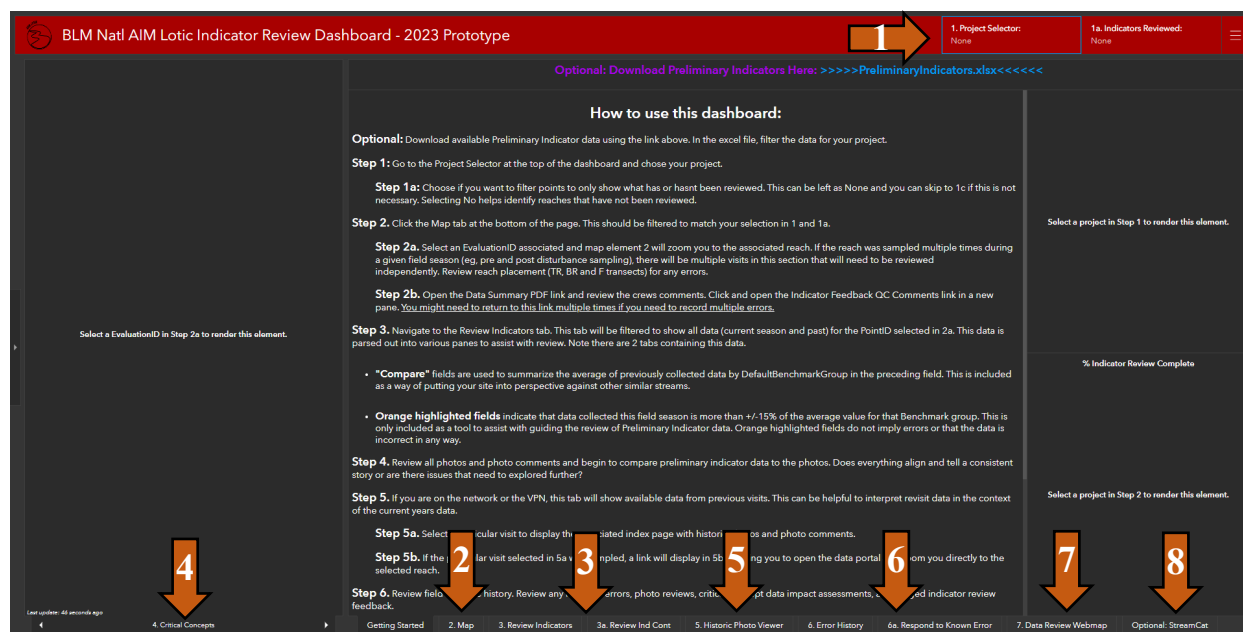

Figure 5. Screenshot of the Indicator Review Dashboard
- Prior to reviewing data from the data collector's first trip watch the QC webinar which covers detailed instructions on how to use the Indicator Review Dashboard. Only general instructions are provided below. The Indicator Review Dashboard has the following key components (Figure 5):
- C. Select your project from the Project Selector (1) at the top of the page. Next, using the Indicators Reviewed Selector (1a) select “No”. This will filter out any reaches that you have already reviewed Indicators for.
- D. Open the Map tab (Figure 5, Label #2). Select the first reach from the list on the left (2a).
- E. Review the reach’s placement on the map (2) against satellite imagery and orient yourself to the area. If the reach has been previously evaluated, compare both reaches top of reach, bottom of reach and F transect placement.
- H. Open the first Review Indicators tab (Figure 5, Label #3). Indicators are organized and arranged into panels allowing the user to see and compare multiple indicators at the same time.
- I. Review the photos (Figure 5, Label #4) to get a feel for the nature of each reach. For example, is the reach high versus low gradient, confined versus unconfined, or highly impacted by management or unaltered? All photos are categorized into tabs. Click the tabs name to select your next tab from a list or use the arrows to navigate.
- L. If the reach has been previously evaluated, open the Historic Photo Viewer tab (Figure 5, Label #5), and select the visit from the list on the left (5a). Once selected, all photos and photo comments will be displayed in the window on the right.
- M. Next open the Error History tab (Figure 5, Label #6) and review all “Transactional Dialog” of the QC information related to the selected reach. Select an element in this pane and then review the information displayed in the “Transactional Dialog” box.
- O. OPTIONAL: If you wish to dive deeper into the current field seasons data to determine why a particular indicator is being computed a certain way, navigate to the Data Review Webmap tab (Figure 5, Label #7). This tab will automatically be zoomed to the reach you have selected. Click on the Points layer and select “Show Related Records” to look at available raw data.
- P. OPTIONAL: Curious about other factors in your reaches watershed that could be impacting its data? Open the Optional: StreamCat tab (Figure 5, Label #8) to see what information EPA StreamCat has for your reach’s catchment and watershed.
- Q. To record the outcomes of the above review, open the QC Comments form using the Dashboard (Figure 5, Label #2) – 2b. Both positive and negative outcomes must be recorded. If no errors were found, mark that everything looks good and submit. Identified errors should be recorded individually to ensure that all data decisions are properly tracked and implemented. For each error choose the method the issue is most associated to, mark whether to flag, omit or edit the data, and provide a comment and reasoning. If follow up is needed to resolve the error still record it as an error, use the “Flag” category, and make clear comments. This is the only location where Indicator Review feedback can be recorded. All other QC Comments links are configured for recording and tracking Field Data QC issues. Examples:
- I. Review photos (Figure 5, Label #4) and reach coordinates displayed on the dashboard map (Figure 5, Label #2) to determine if sampling conditions and reach placement were similar or if major changes occurred at a reach.
- a. Historic photos can be found using the Historic Photo Viewer tab (Figure 5, Label #5).
- II. Quickly review field comments from the data collectors (Figure 5, Label #2) – 2b.
- III. Review the “Transactional Dialog” for any field errors (Figure 5, Label #6). Follow details in step M above.
- IV. Review Indicators (Figure 5, Label #3) and compare covariate values to the photos and through time. Any large differences in covariates are particularly concerning because things such as stream slope usually do not change appreciably among years.
- VII. To record the outcomes of the above review, open the QC Comments form using the Dashboard (Figure 5, Label #2) – 2b. Both positive and negative outcomes must be recorded. If no errors were found, mark that everything looks good and submit. Identified errors should be recorded individually to ensure that all data decisions are properly tracked and implemented. For each error choose the method the issue is most associated to, mark whether to flag, omit or edit the data, and provide a comment and reasoning. If follow up is needed to resolve the error still record it as an error, use the “Flag” category, and make clear comments. Examples: